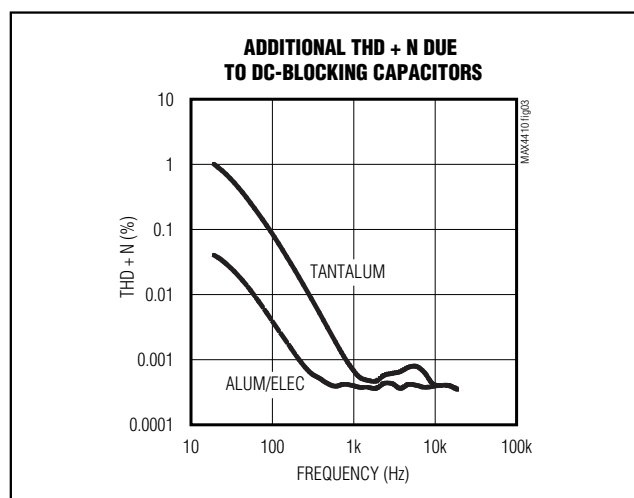

Figure 3. Distortion Contributed by DC-Blocking Capacitors
- 2) The voltage coefficient of the DC-blocking capacitor contributes distortion to the reproduced audio signal as the capacitance value varies as a function of the voltage change across the capacitor. At low frequencies, the reactance of the capacitor dominates at frequencies below the -3dB point and the voltage coefficient appears as frequency-dependent distortion. Figure 3 shows the THD + N introduced by two different capacitor dielectric types. Note that below 100Hz, THD + N increases rapidly.